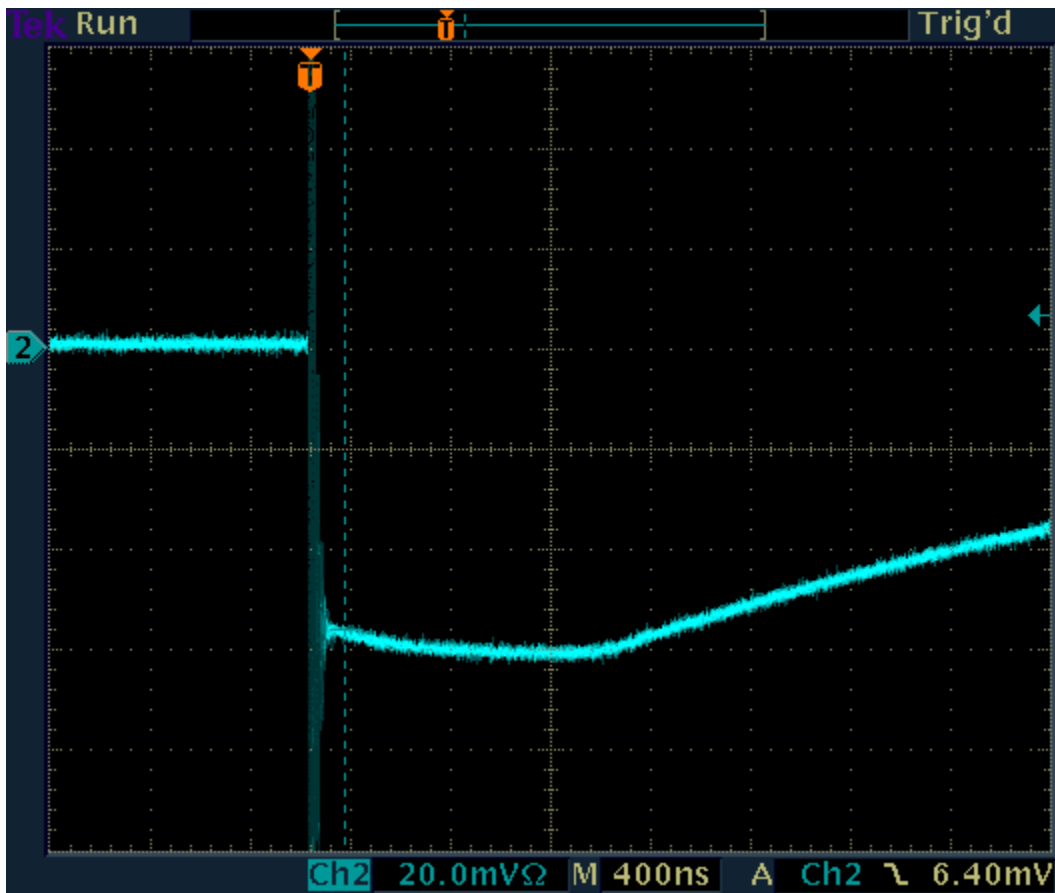

FIGURE 1
9. Observe the monitor output and verify that the voltage drops greater than 0.1 V as the circuit fires, then returns to the level noted in step 3. See figure1.
12. Connect the high voltage step down divider and view the waveform with an oscilloscope and ensure that the pulse shape appears similar to the one shown in Figure 1 (below).